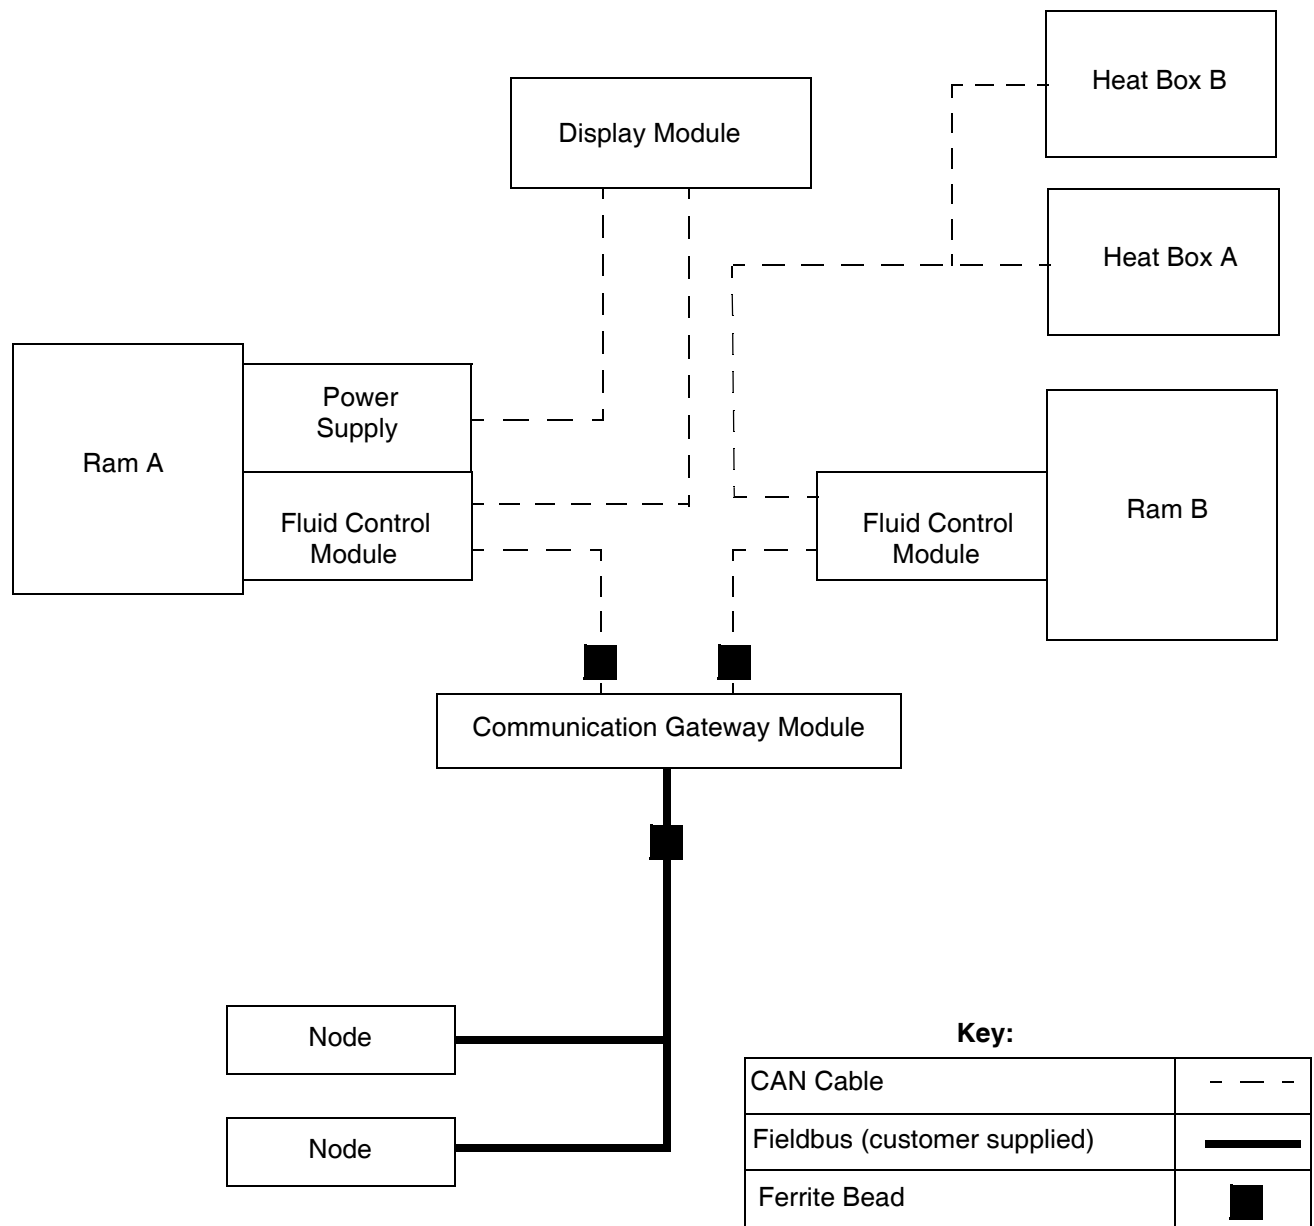
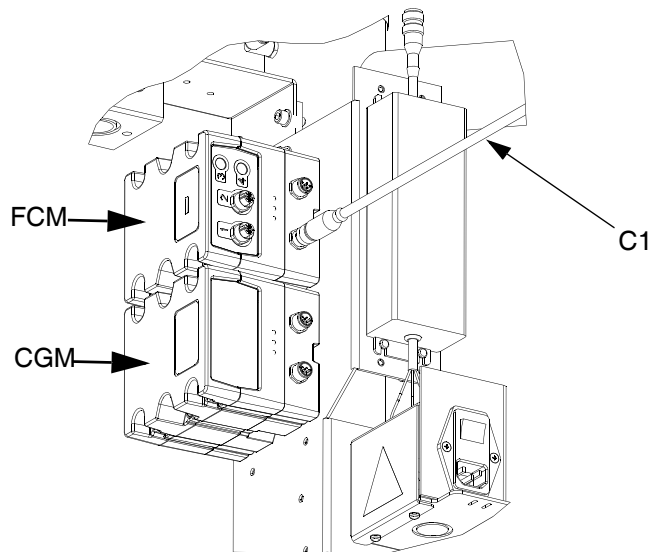
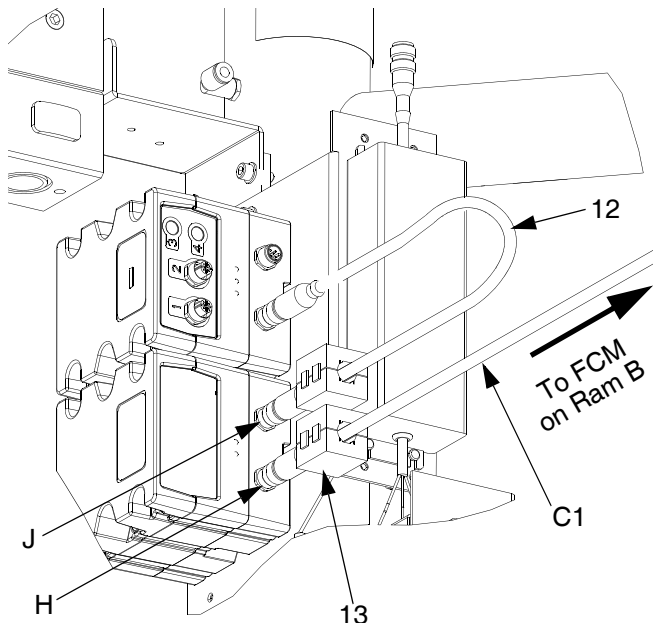
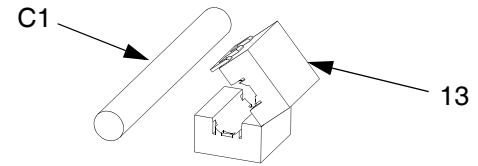

FIG. 1: Typical Installation
FIG. 4: CGM and FCM on Ram A
FIG. 5: CGM and FCM Connections on Ram A
FIG. 6: Clamp ferrite bead
9. Connect the CAN cable (C1) to the lower CAN connector (H) on the CGM and fluid control module on Ram B. See FIG. 4 and FIG. 5.
10. Connect the supplied CAN cable (12) to the upper CAN connector (J) on the CGM and fluid control module on Ram A. See FIG. 4 and FIG. 5.
11. Clamp two ferrite beads (13) on the CAN cables adjacent to the CGM. See FIG. 1 and FIG. 5 for bead locations.
16. Clamp the ferrite bead (13) to the fieldbus cable adjacent to the CGM. See FIG. 1 on page 3 for bead locations. See FIG. 6.